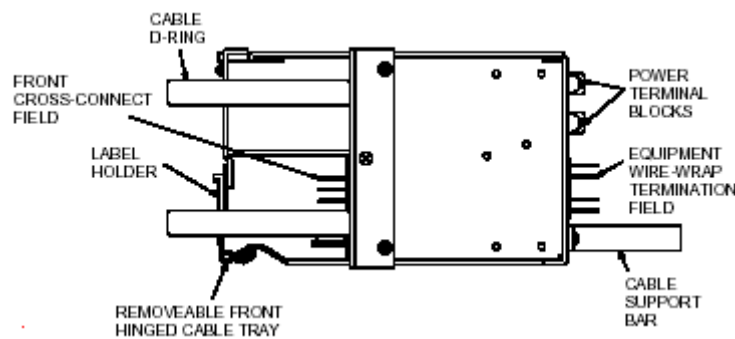

Figure 5. Side View of Panel
6. Route jumper wires through D-rings and cable access opening at either side of panel (see Figure 5). Use wire tray and fanning strip for wire support.